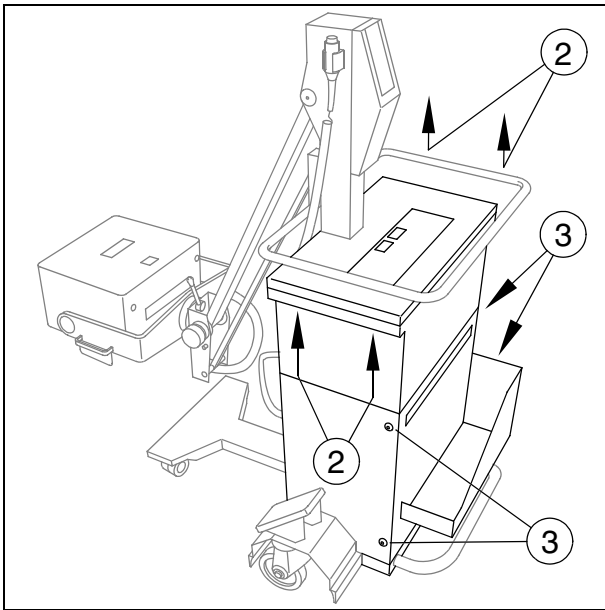

Fig. 4
- Remove the four Allen screws at the bottom of the switchbox cover (2/Fig. 4) and remove the cover.
- After removing the four panel screws (3/Fig. 4), remove the bottom cover at the front with the cassette tray.